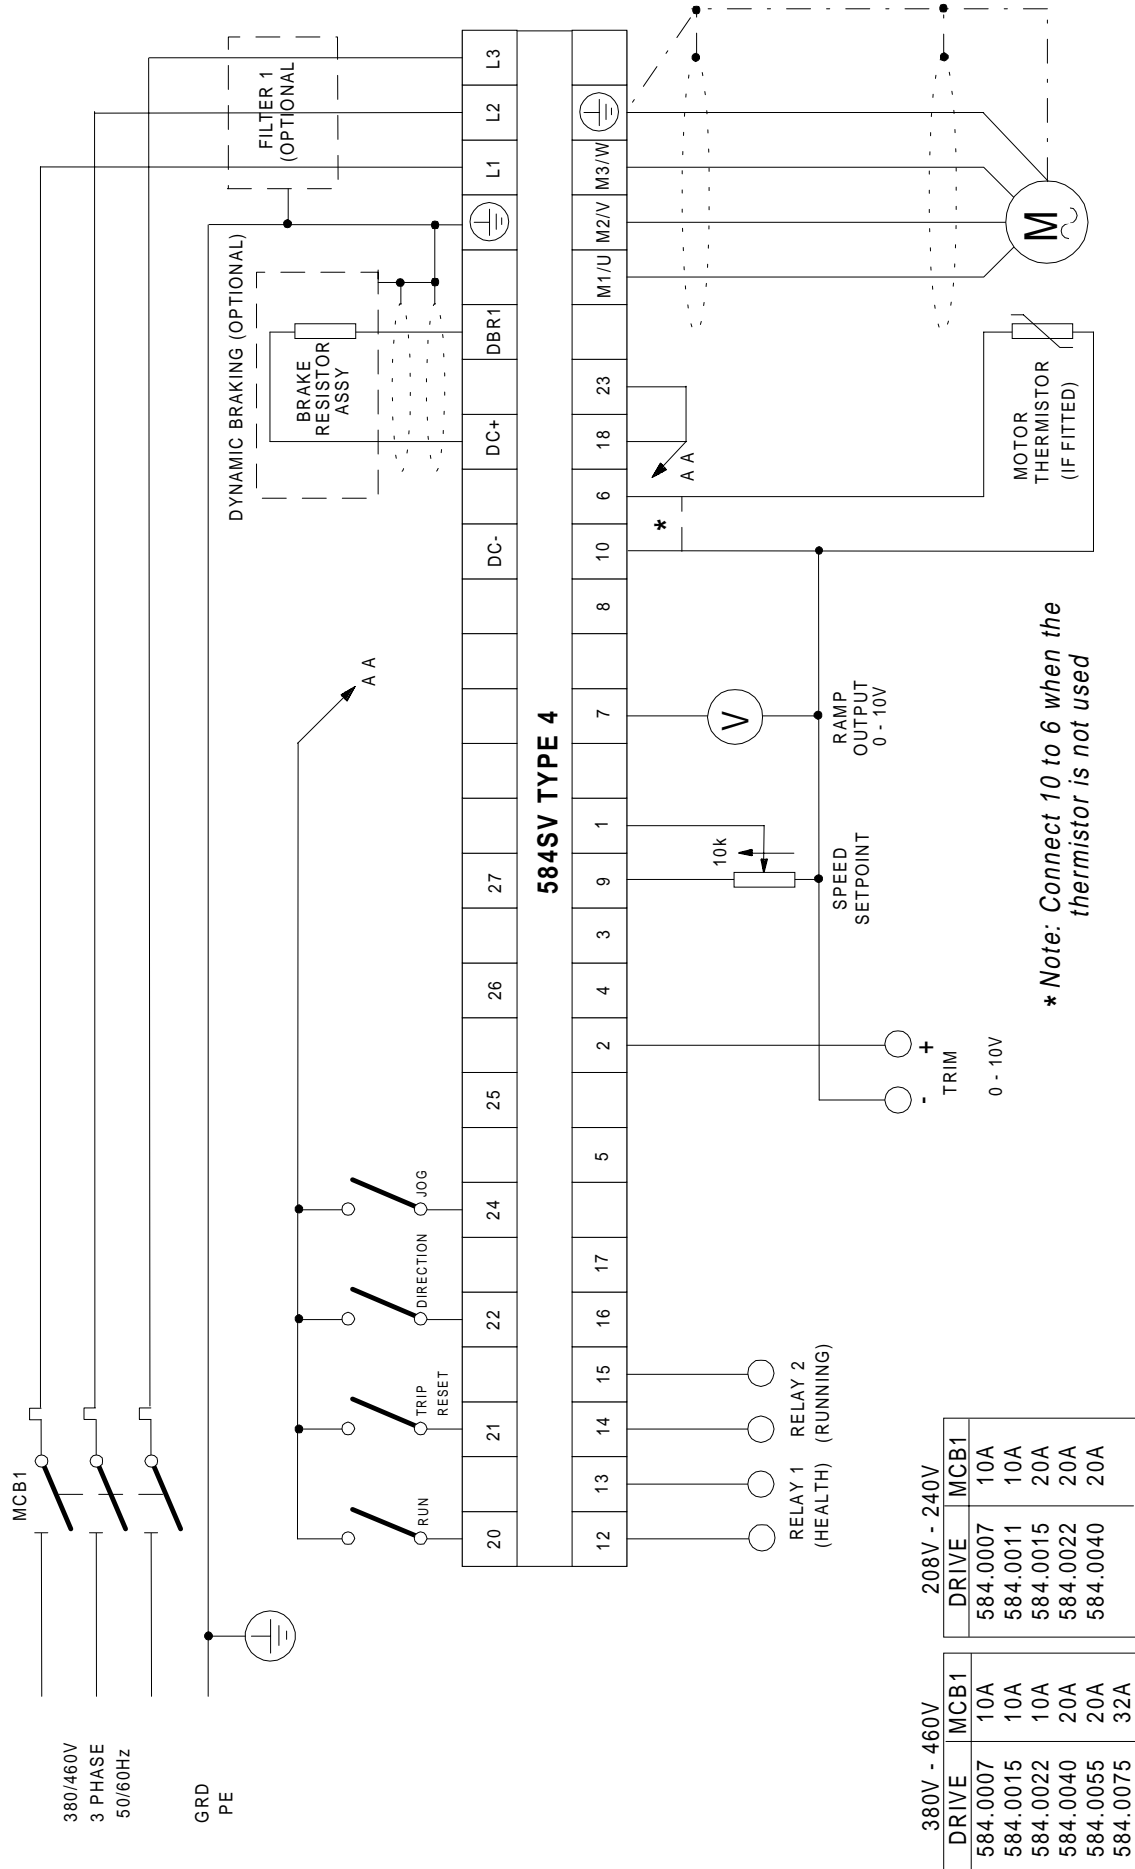
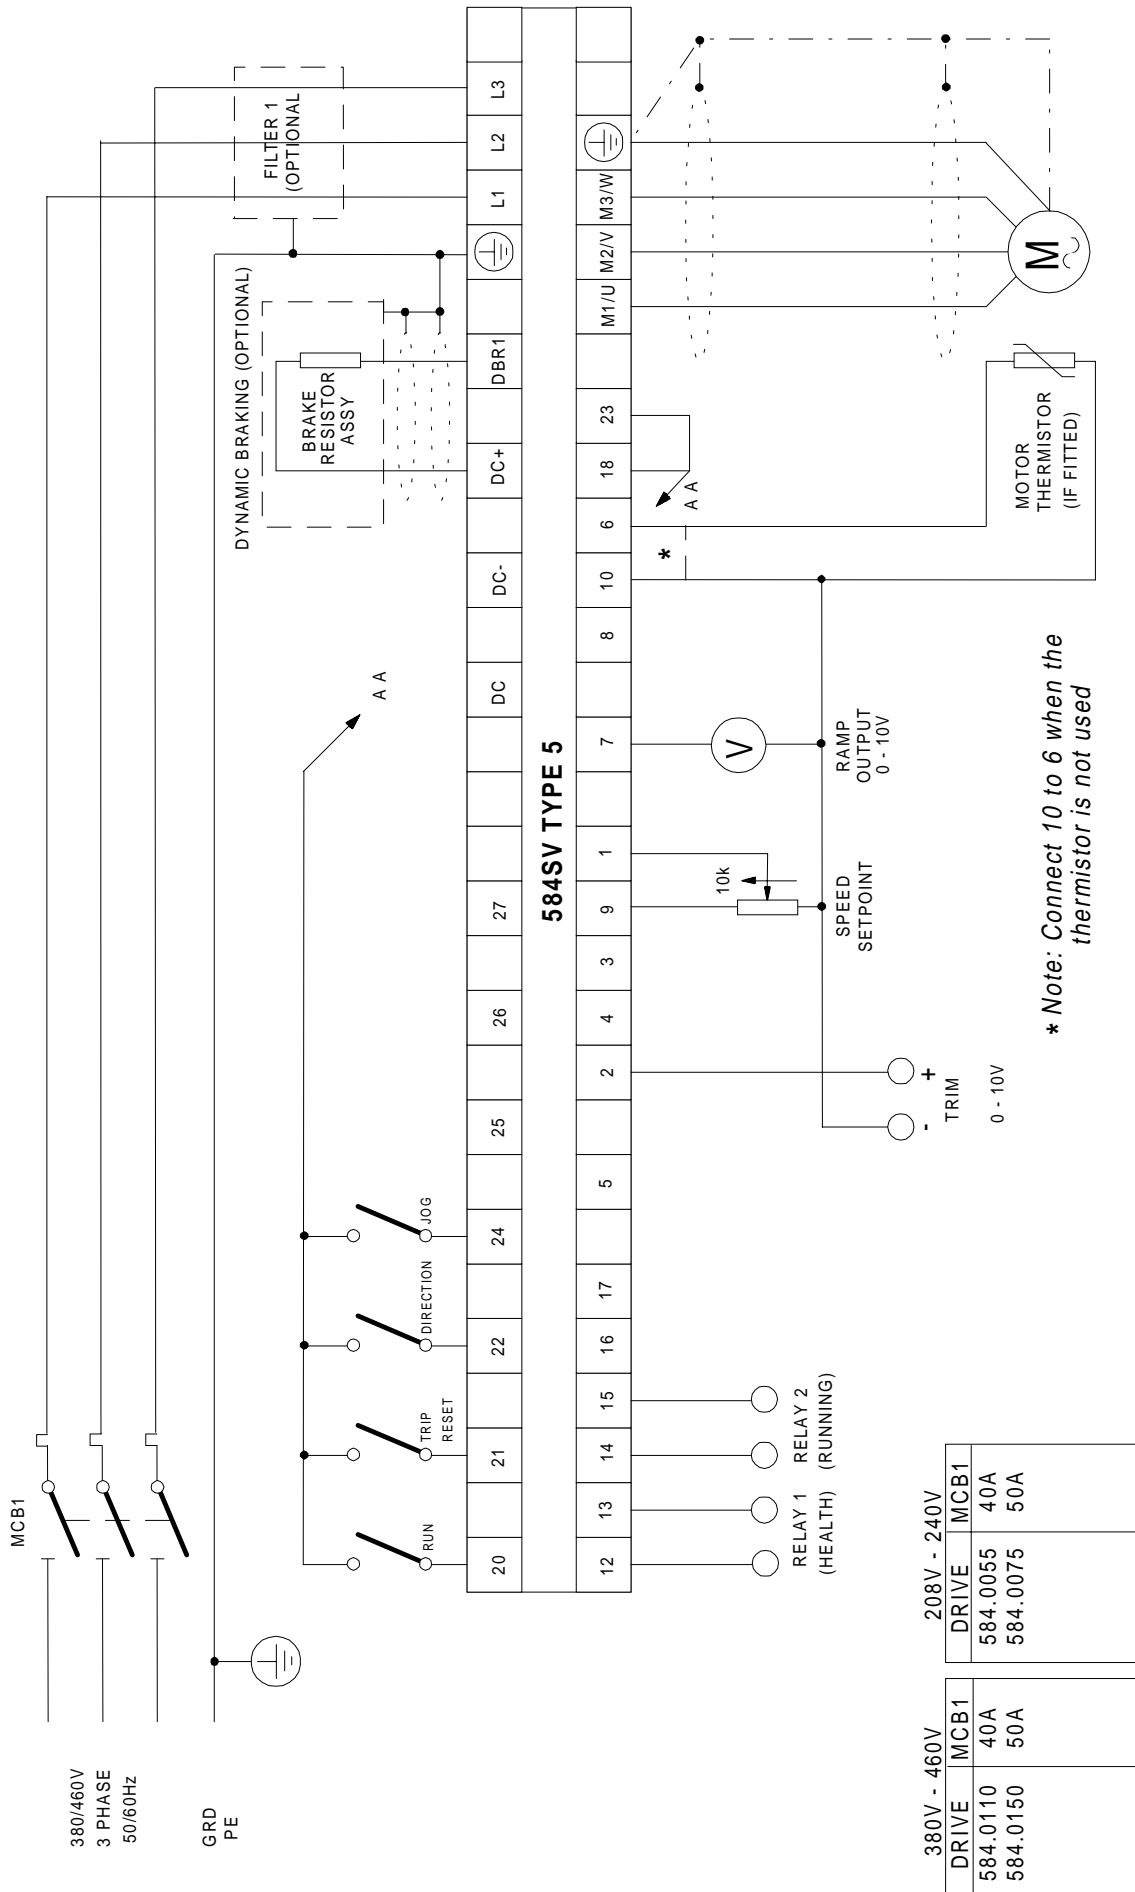
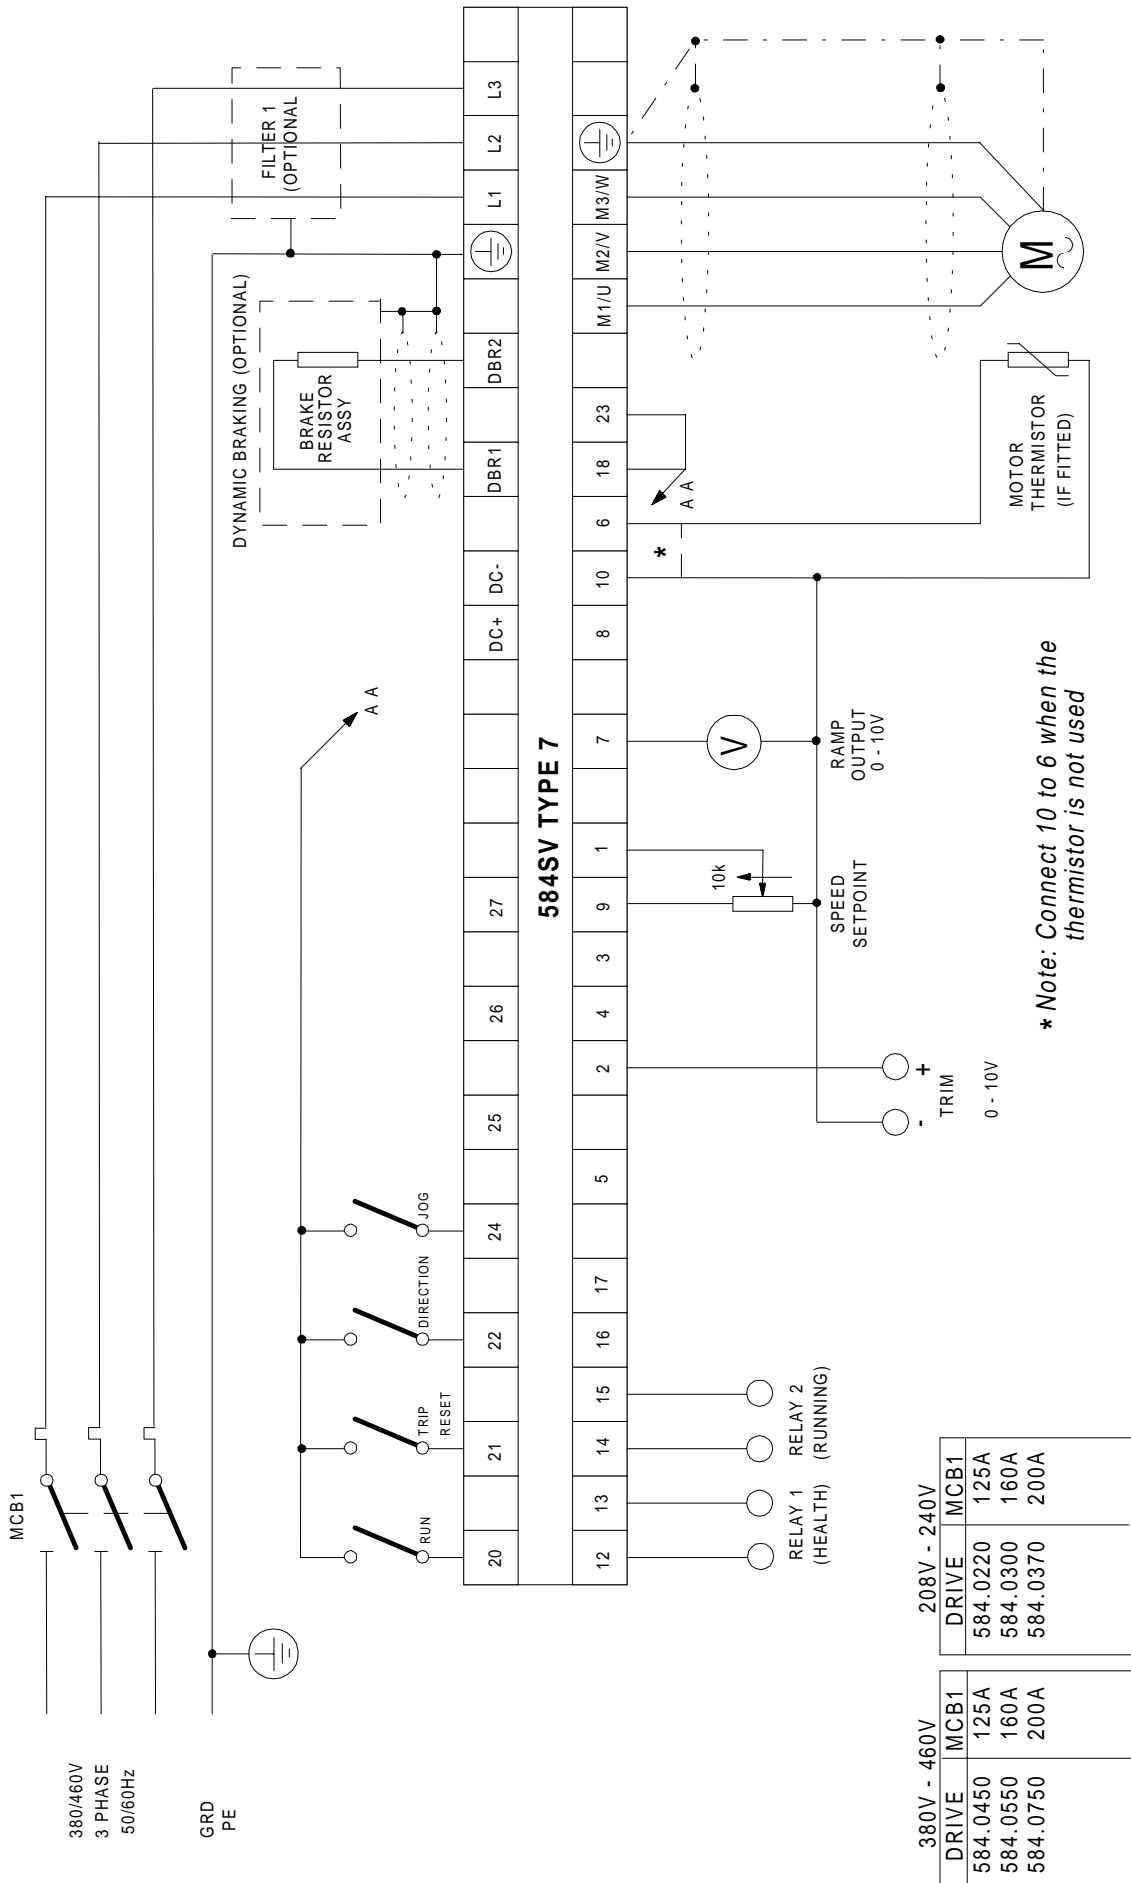

Figure 3-18 General Wiring Diagram for Macro 1 - 584SV Type 4
Figure 3-19 General Wiring Diagram for Macro 1 - 584SV Type 5
Figure 3-21 General Wiring Diagram for Macro 1 - 584SV Type 7
1. Feed the control cables into the Inverter and connect to the control terminals. Refer to Figure 3-18, Figure 3-19, Figure 3-20 or Figure 3-21 for connection details when using Macro 1 (default). Refer to Chapter 15: "Application Macros" for information when using other macros.